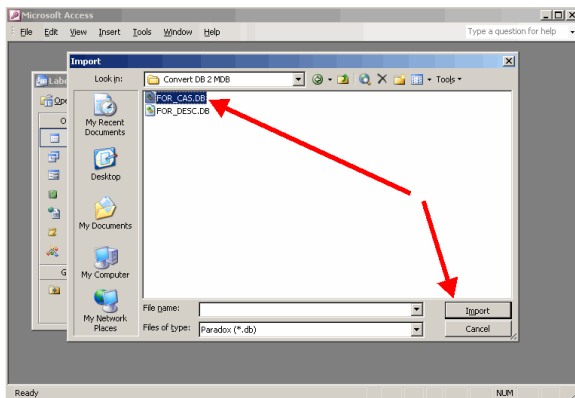
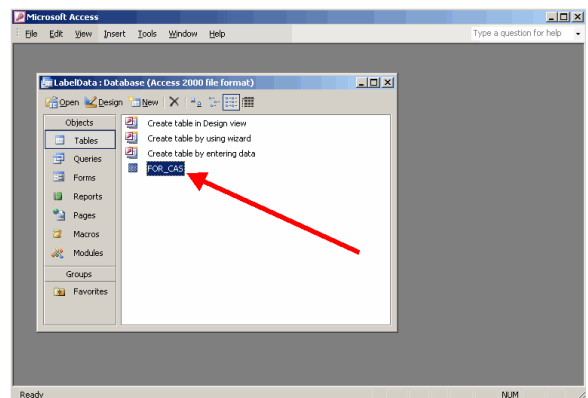

Figure 37a
Figure 37b
42. Highlight the database you want to import and click Import. (Figure 37a) You will see the Paradox database imported into your MS Access 2003 database as a table. (Figure 37b)